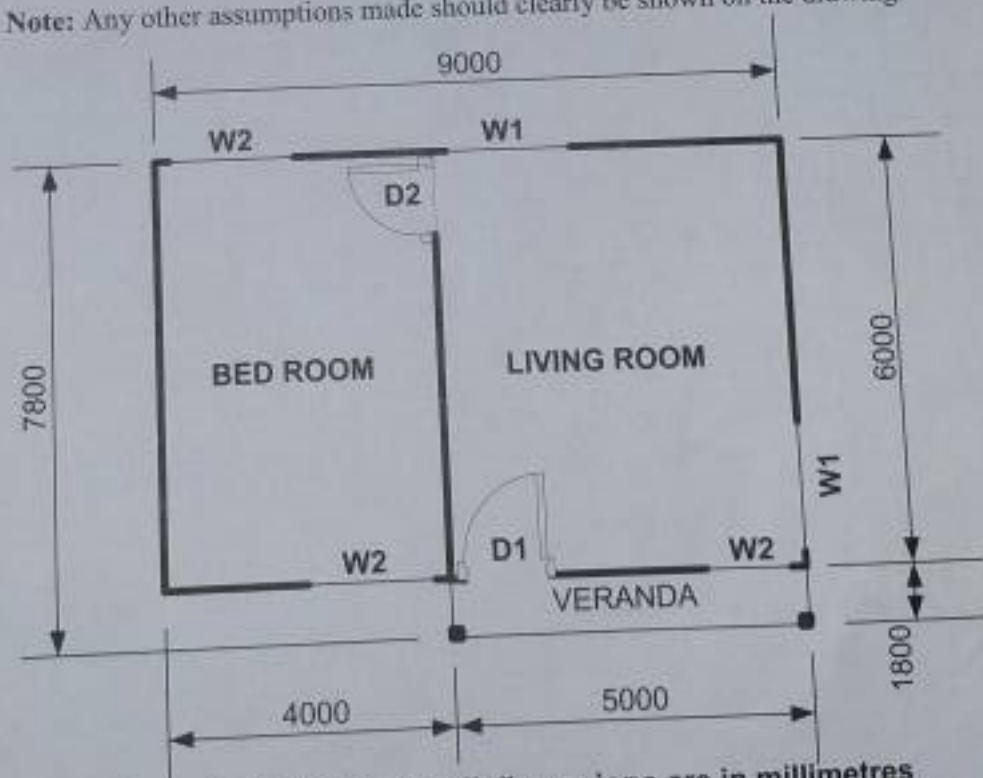

Figure 2 (Not to scale); All dimensions are in millimetres
15. To a scale of 1:50; draw the detailed floor plan of a one-bed residential house out-lined in **Figure 2** and present the hipped- roof plan to cover the house. The following information may help you in the presentation of drawings: